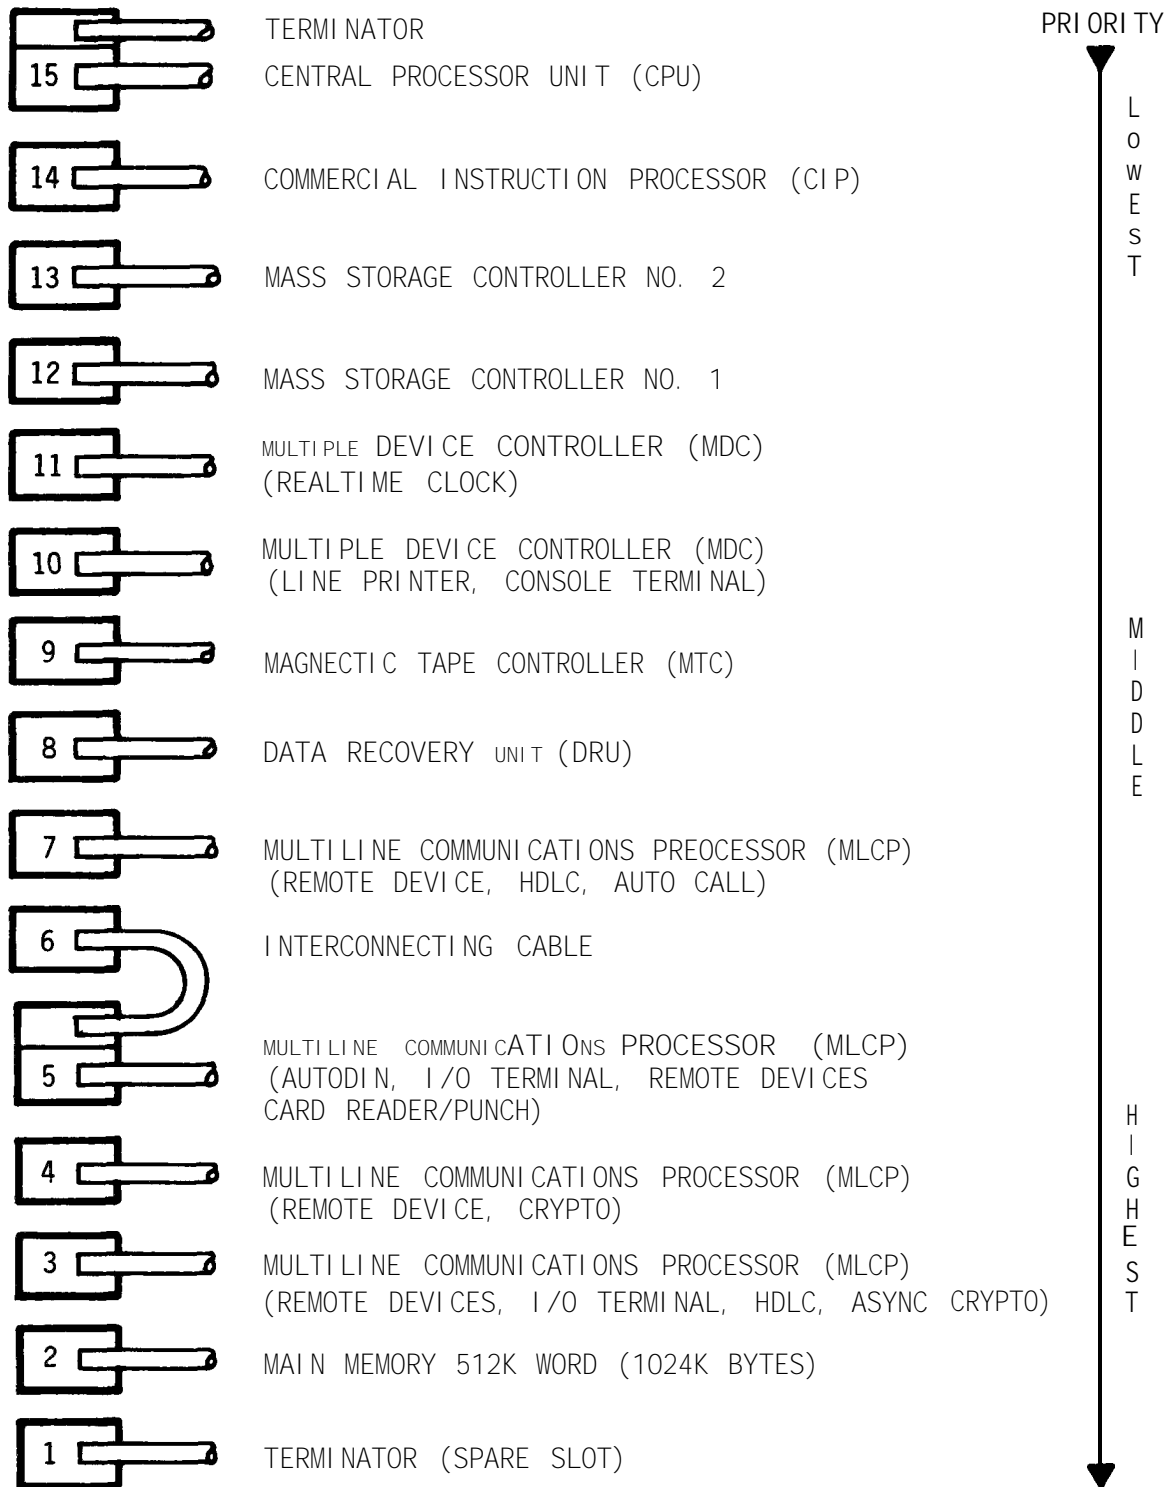

Figure 1-6. CPU Megabus Slot/Board Location
a. CPU Board Configuration. The position of boards in the megabus is very important. Priority of individual boards within the chassis (fig. 1-6) is fixed and must be followed. The main memory board always has the highest priority and is inserted below the last communications processor. The CPU memory has a 512K word (1024K bytes) memory.
b. Central Processor (CP) and Memory Management Unit (MMU). The CP with its MMU adapter board must always occupy the top slot used in the megabus. Each CP and MMU is a matched set. Boards from another system cannot be used-for board swapping.